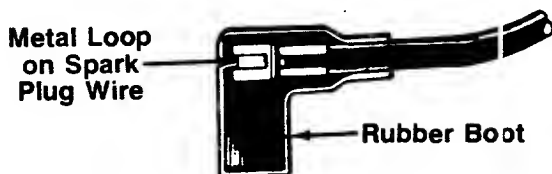

FIGURE 21.
3. Attach spark plug wire to spark plug. Make certain the metal loop on the end of the spark plug wire (inside the rubber boot) is fastened securely over the metal tip on the spark plug. See figure 21.